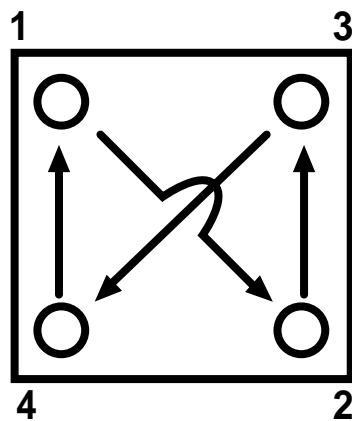

Fig. 2. Diagonal crossing pattern for tightening screws in the multiscreen apparatus.
4. Place the sample template on top of the membrane. The guide pins insure that the template will be properly aligned. Finger tighten the four screws. When tightening the screws, use a diagonal crossing pattern to insure even pressure on the membrane surface (see Figure 2). The multiscreen apparatus is ready for sample application.